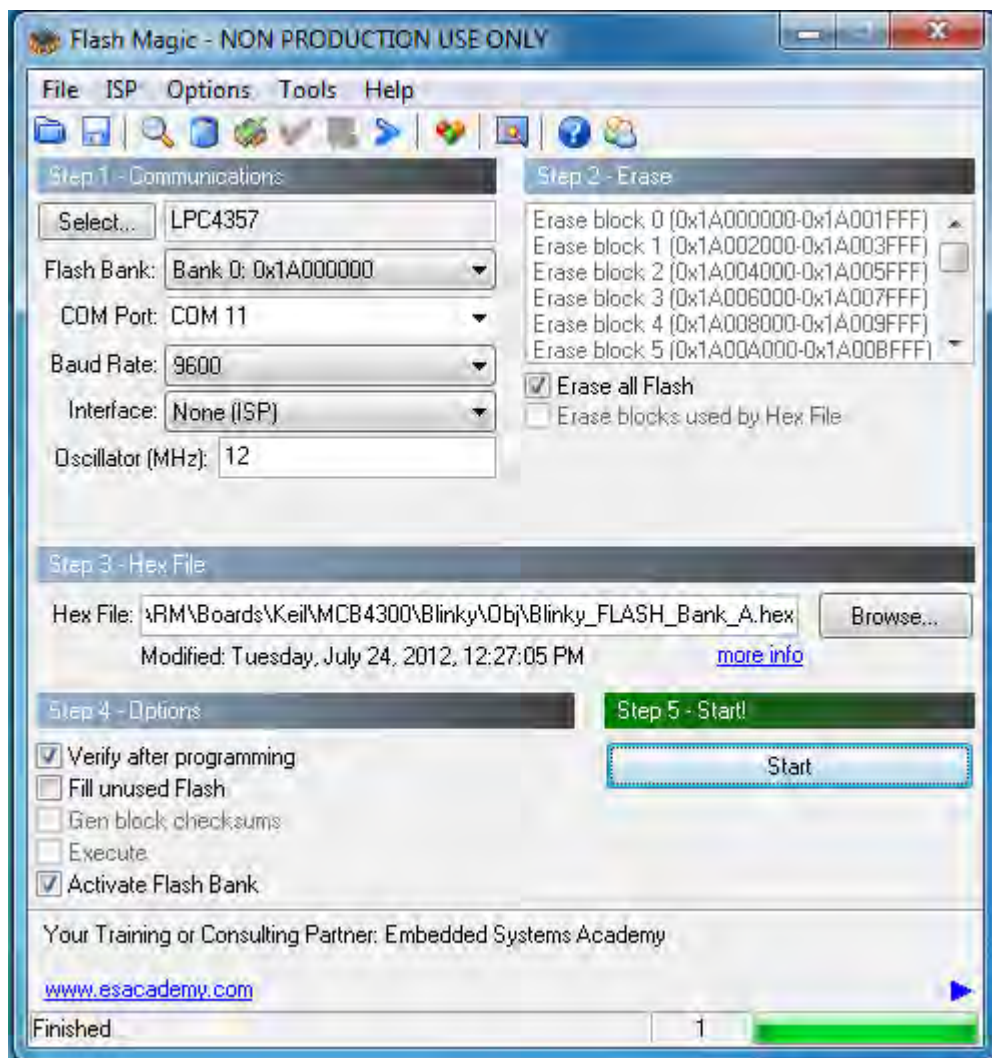

Fig 8. Flash programming done successfully
- Click 'Start' button to start Flash programming. The status bar at the bottom of the Flash Magic window shows the status during programming. When flash programming finishes successfully it shows the message 'Finished' in the status bar as shown in Fig 8.